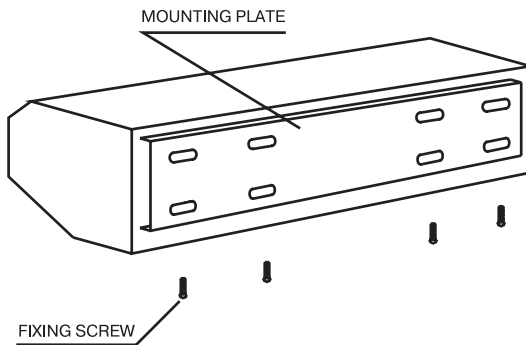

Figure 6 Mounting plate remove.
- e) Install Air Curtain on the mounting plate according to Fig.6.